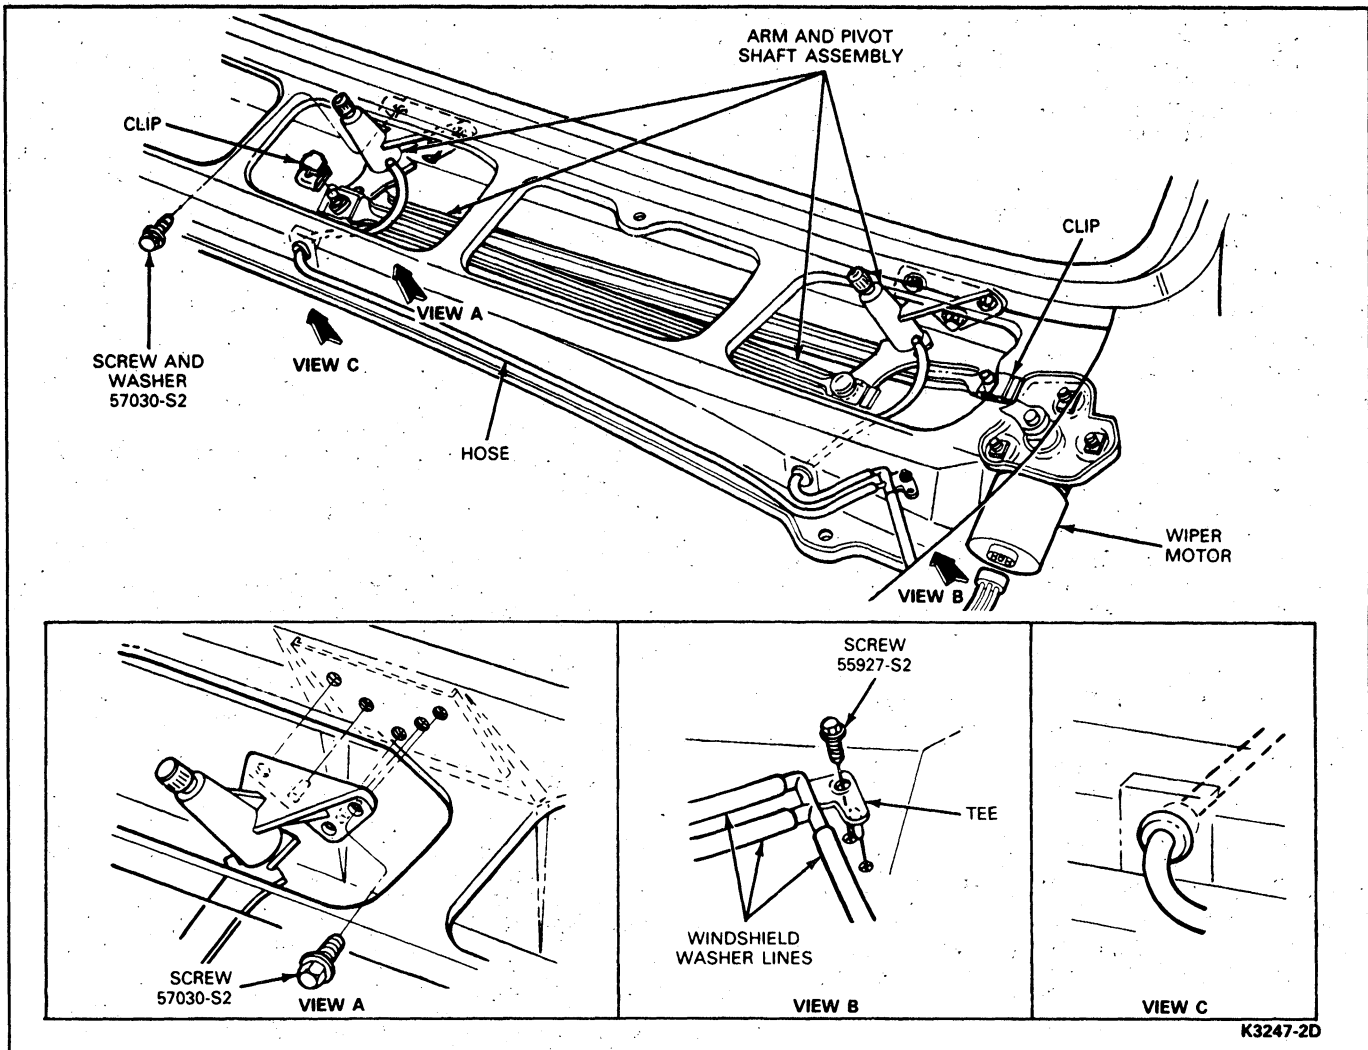

FIG. 13 Windshield Wiper Motor, Linkage, and Pivot Shaft Installation—E-150—E-350
2. Disconnect wiper motor wiring harness connector at the motor brush cap and gear box cover (Fig. 13).
4. Remove the outer air inlet cowl. Remove the clip retaining the motor drive arm to the linkage mounting arm and pivot shaft assembly (Fig. 13).
2. Remove the wiper blade and arm assembly from the pivot shaft and disconnect the washer hose (Fig. 13).
4. Remove the clip securing the LH and RH linkage. Remove the clip from the wiper motor arm (Fig. 13).
2. Install the clip to the LH and RH linkage and the clip linkage to motor arm (Fig. 13).